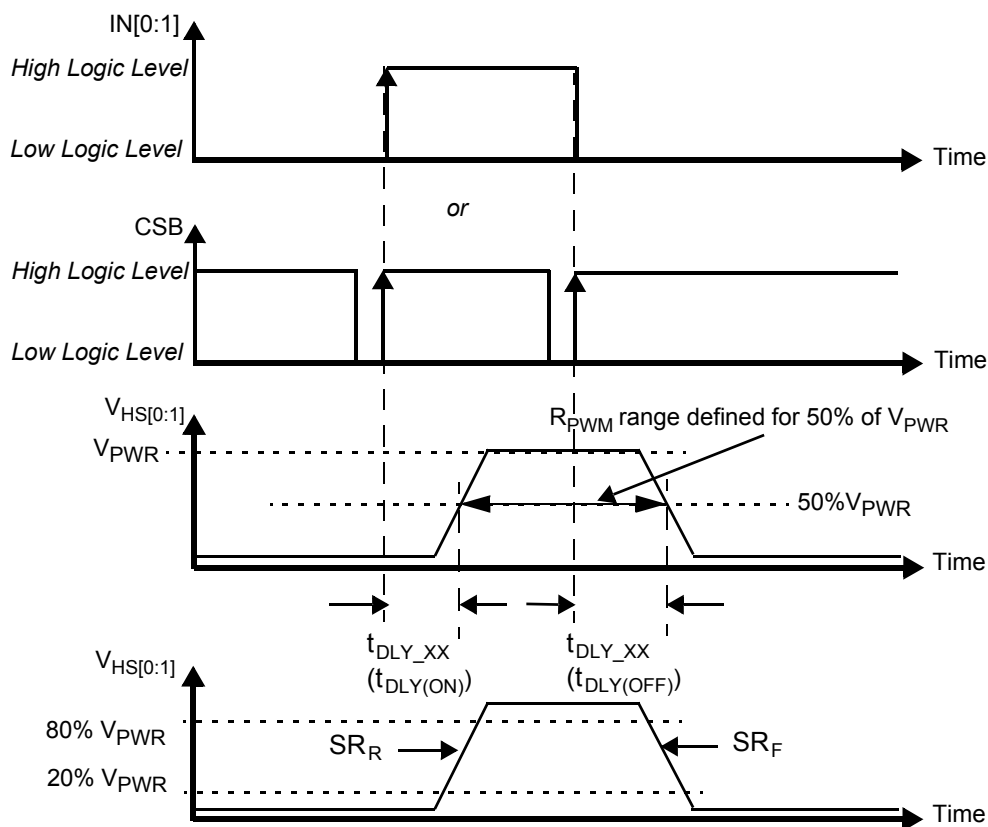
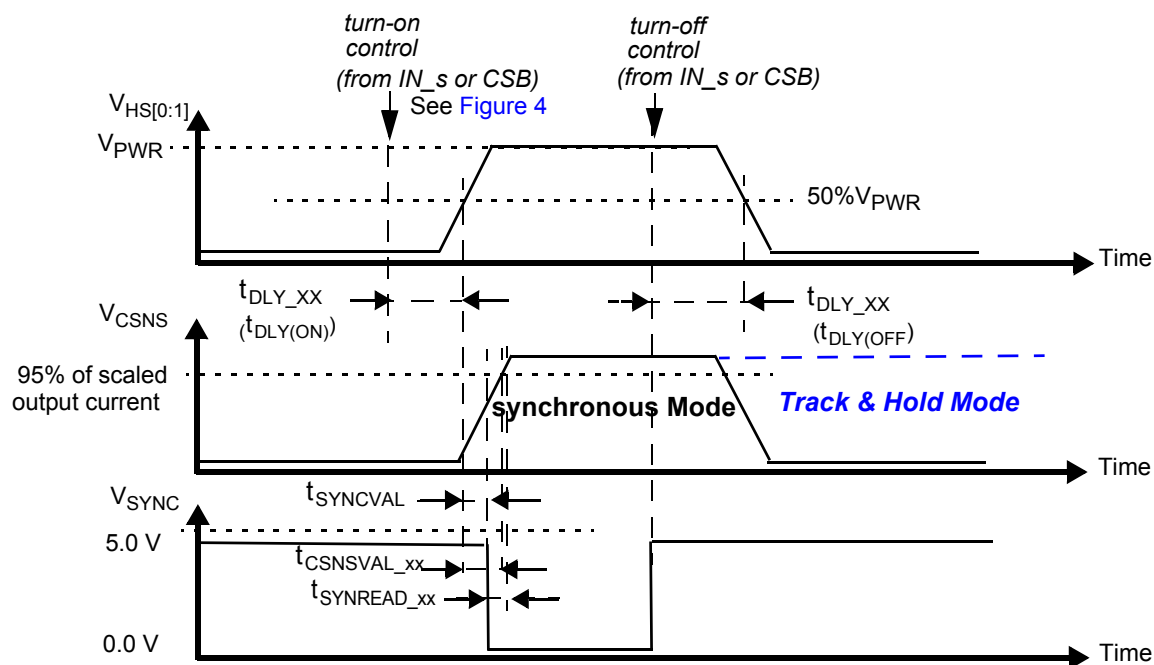

Figure 4. Output Voltage Slew Rate and Delay
Figure 9. Synchronous & Track-and-Hold Current Sensing Modes: Associated Delay & Settling Times
28. Rising and Falling edge slew rates specified for a 20% to 80% voltage variation on a 10.0 Ω resistive load (see Figure 4).
30. Time required to switch off the channel after detection of overtemperature (OT), overcurrent (OC), SC or UV error (time measured between start of the negative edge on the FSB pin and the falling edge on the output voltage until $V(HS[0:1]) = 50\%$ of V_{PWR}).
31. Settling time (= $t_{CSNSVAL_XX}$), SYNC output signal delay (= $t_{SYNCVAL_XX}$) and Read-out delay (= $t_{SYNREAD_XX}$) are defined for a stepped load current using a 10 Ω resistive load for $CSNS_RATIO_s = 0$. (see Figure 9 and Output Current Monitoring \(CSNS\)).
To synchronize current sensing with an external process, the SYNC signal can be connected to a digital input of an external MCU. SYNC is asserted logic low when the current sense signal is accurate and ready to be read. The current sense signal on the CSNS pin has the specified accuracy $t_{SYNREAD_XX}$ seconds after the falling edge on the SYNC pin (Figure 9) and remains valid until a rising edge is generated. The rising edge that is generated by the SYNC pin at the turn-OFF instant (internal or external) may also be used to implement synchronization with the external MCU. Parameter t_{SYNVAL_XX} is defined as the time between the instant at the middle of the output-voltage rising edge ($HS[0:1] = 50\%$ of V_{PWR}), and the instant at which the voltage on the SYNC-pin drops below 0.4 V (V_{SOL}). The SYNC pins of different devices can be connected together to save micro-controller input channels. However, in this configuration, the CSNS function of only one device should be active at a time. Otherwise, the MCU does not determine the origin of the SYNC signal. The SYNC pin is open drain and requires an external pull-up resistor to V_{DD} .